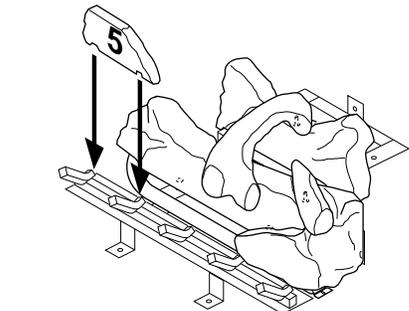

Figure 54 - Installing Log No. 5
5. Place log #5 (small log) onto the front left part of the grate making sure the notches fit over the prongs of the grate. See Figure 54.